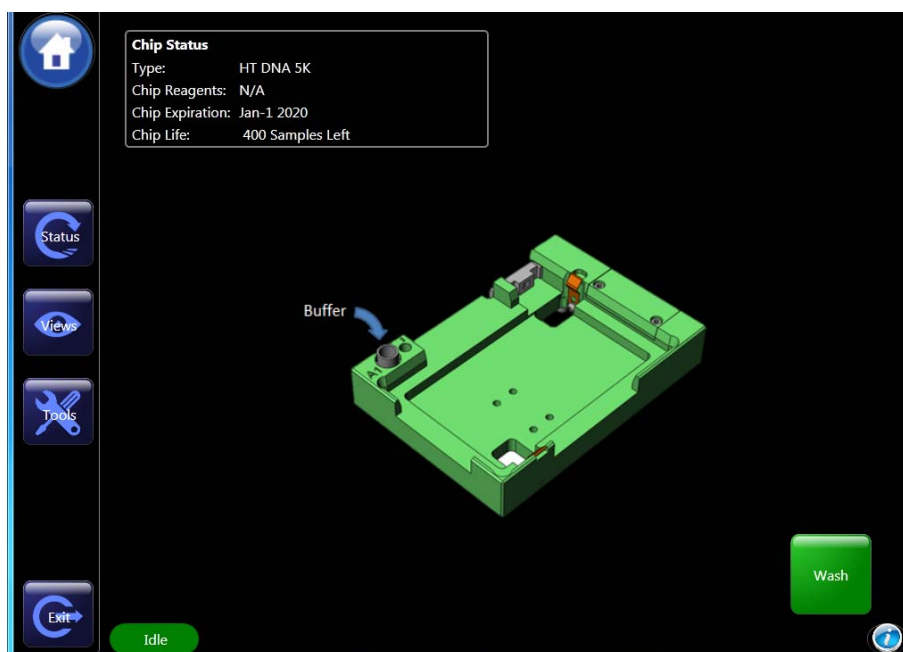

Figure 17. Wash screen.
- Touch the *Wash* button on the *Home* screen. The *Wash* screen opens (Figure 17).